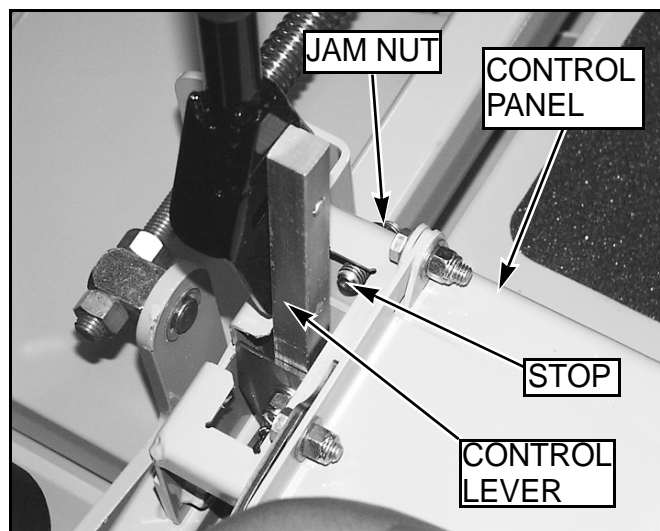

FIG. 53
8. After adjusting for neutral it may be necessary to re-adjust the control lever stop (FIG. 53).
The control lever stops (FIG. 53) are designed to do two things: First, and most important, they must keep the pumps from bottoming out internally. Secondly, the stops may be adjusted to help drive straight when the control levers are pushed forward against the stops.